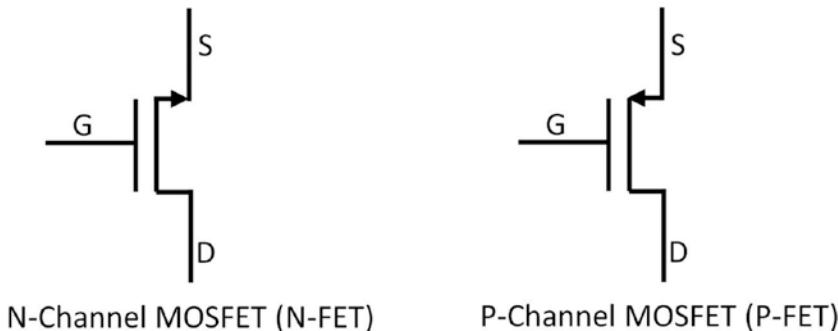

Figure 5-1. MOSFET using arrows to designate the type
One of the most basic elements in an FPGA is MOSFET (Metal Oxide Semiconductor Field Effect Transistor). In the FPGA world, it is usually referred to as a gate. It is like a light switch. It will either allow the current flow (light is ON) or block the current flow (light is OFF), depending on what value it receives, high (1) or low (0). There are two main types of MOSFETs: P-FETs and N-FETs (Figure 5-1).